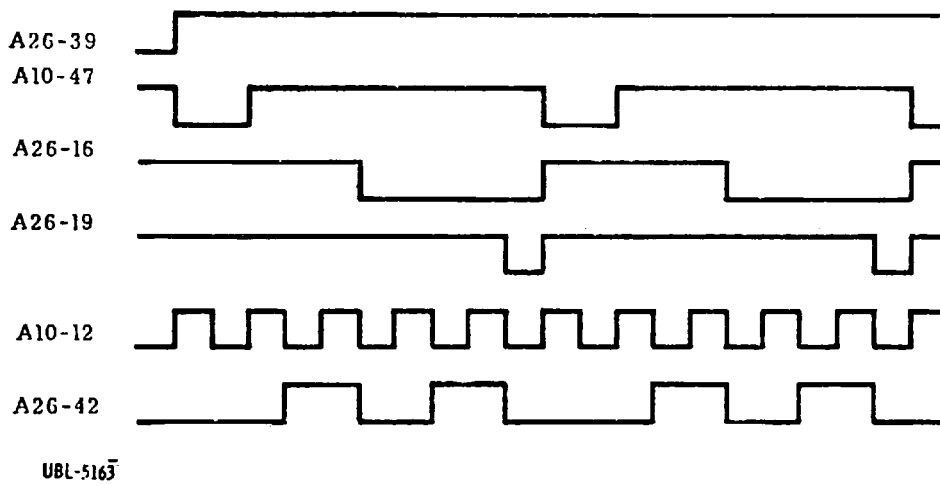

Figure 4-5. Command Bit Timing
c. Pulse width control for a "0" or "1" transmission is derived from 4 kHz and 20 kHz outputs from A10 (D4022) such that the output at A17-35 for a "0" is 75 microseconds and the output at A17-38 for a "1" is 175 microseconds (figure 4-5).